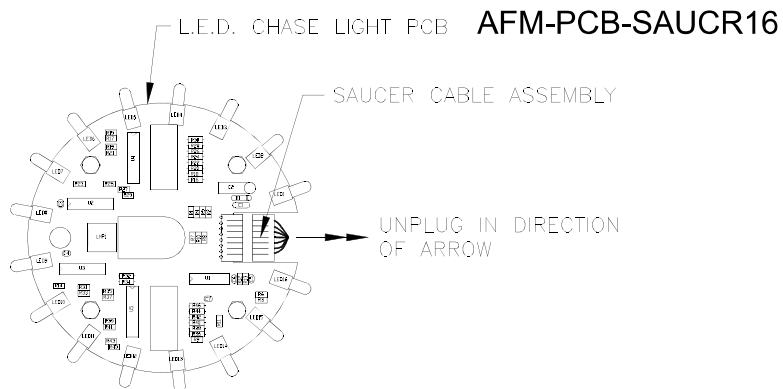

FIGURE 6
- Carefully unplug the Saucer Cable (p/n AFM-CBL-SUCRCBL) from the L.E.D. Chase Light PCB (p/n AFM-PCB-SAUCR16) and push the cable out of the Saucer Body Assembly through the rectangular accesshole in the bottom of the Saucer Body Assembly. (See Fig.6)